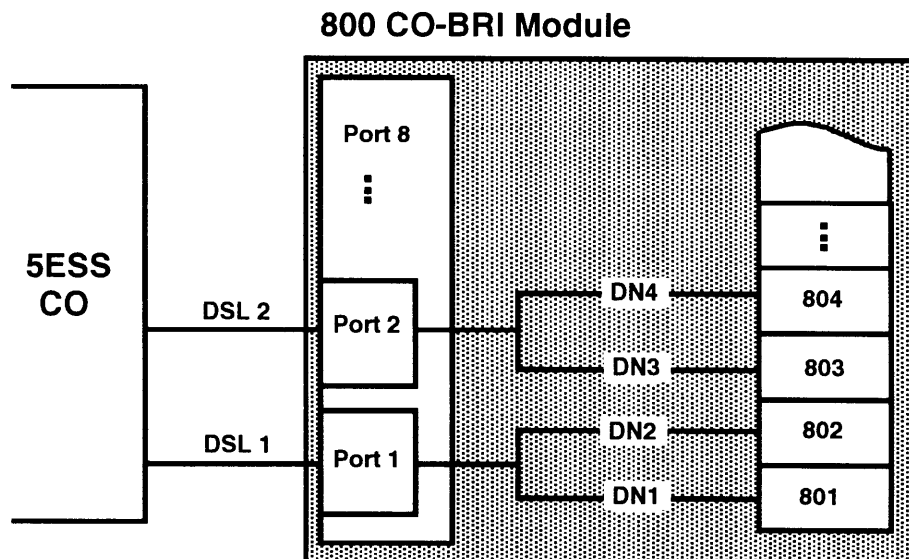

Figure 1-4. Directory Number Mapping
The MERLIN LEGEND system maps the Directory Number (DN) to a line number in the Dial Plan. For example, if the 800 CO-BRI module is the first module in the system, DN1 is mapped to Line 801, the first line in the MERLIN LEGEND system. DN2 is mapped to 802, and soon for each DN (see Figure 1-4). A telephone with Line 801 rings any time a call arrives to DN1. Subsequent calls to the same DN can be handled by the 5ESS Multi-Line Hunt Group feature (if the user has subscribed to this feature).